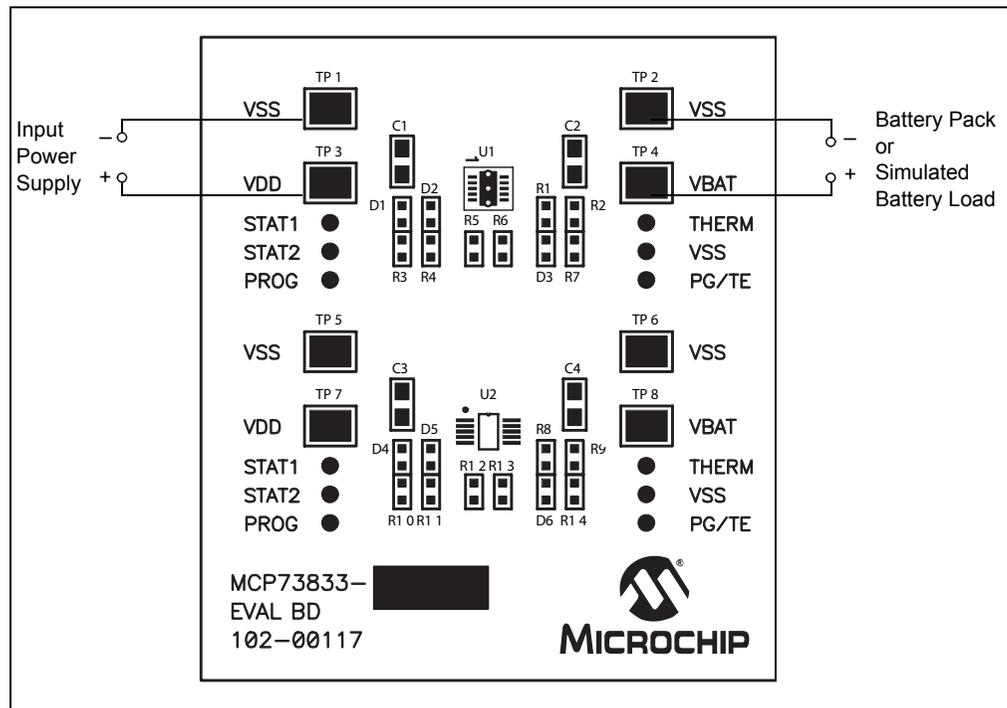

FIGURE 2-1: Setup Configuration Diagram.
2. Connect the positive side of the input source (+) to VDD of the circuit being evaluated. Connect the negative or return side of the input source (-) to VSS of the circuit being evaluated. Refer to Figure 2-1.